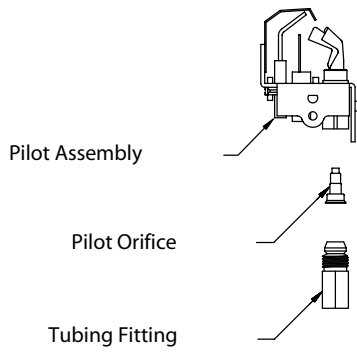

Figure 2
**REPLACEMENT OF PILOT ORIFICE (SEE FIGURE 2)**